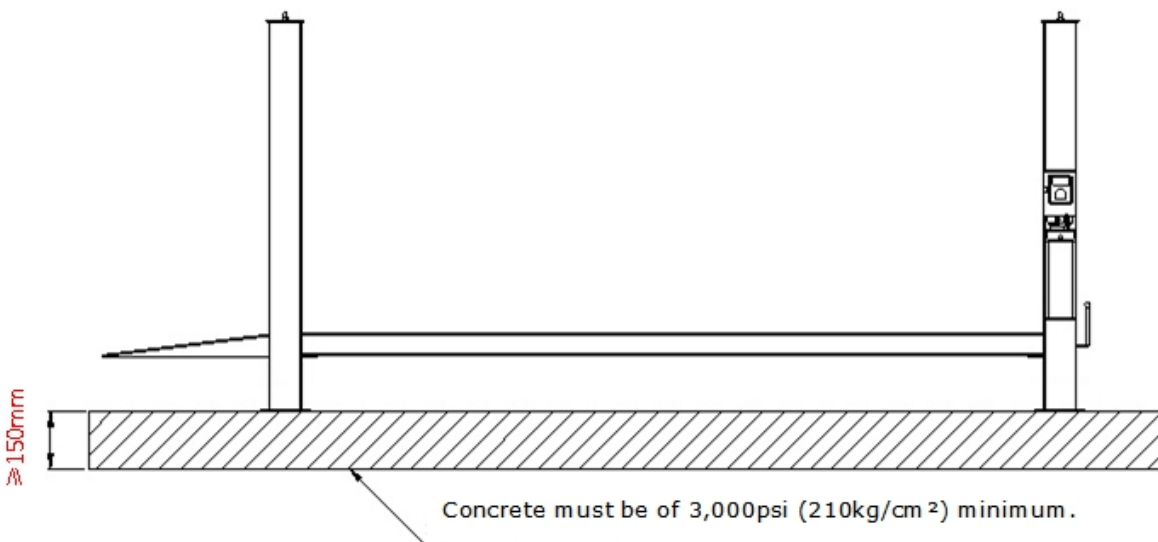

Fig. 4
E. SPECIFICATIONS OF CONCRETE (See Fig. 4)